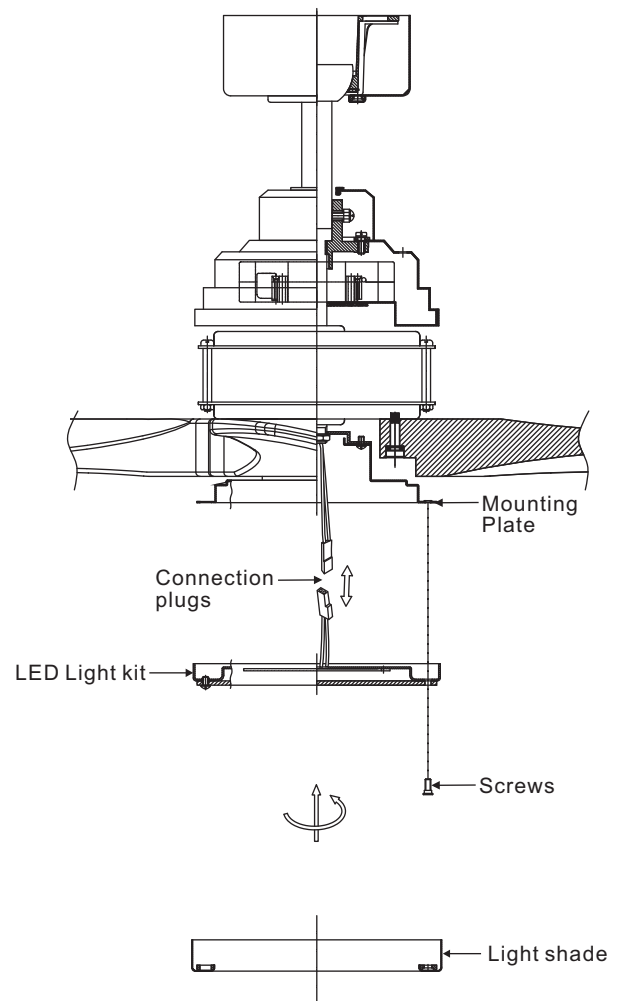

Figure 15
Step 1. Remove the 1 of 3 screws from the posts of the mounting plate and keep it for future use. Loosen the other 2 screws. (Do not remove) (Fig. 15)
Step 3. Place the key holes in the LED light kit over the two screws previously loosened from the mounting plate. Turn the LED light kit until the LED light kit locks in place at the narrow section of the key holes. (Fig. 15)
Step 4. Securely tighten the two light kit mounting screws previously loosened and the one previously removed. (Fig. 15)
Step 5. Raise light shade up against the LED light kit, and secure it to fan by turning light shade clockwise until snug. DO NOT OVERTIGHTEN. (Fig. 15)